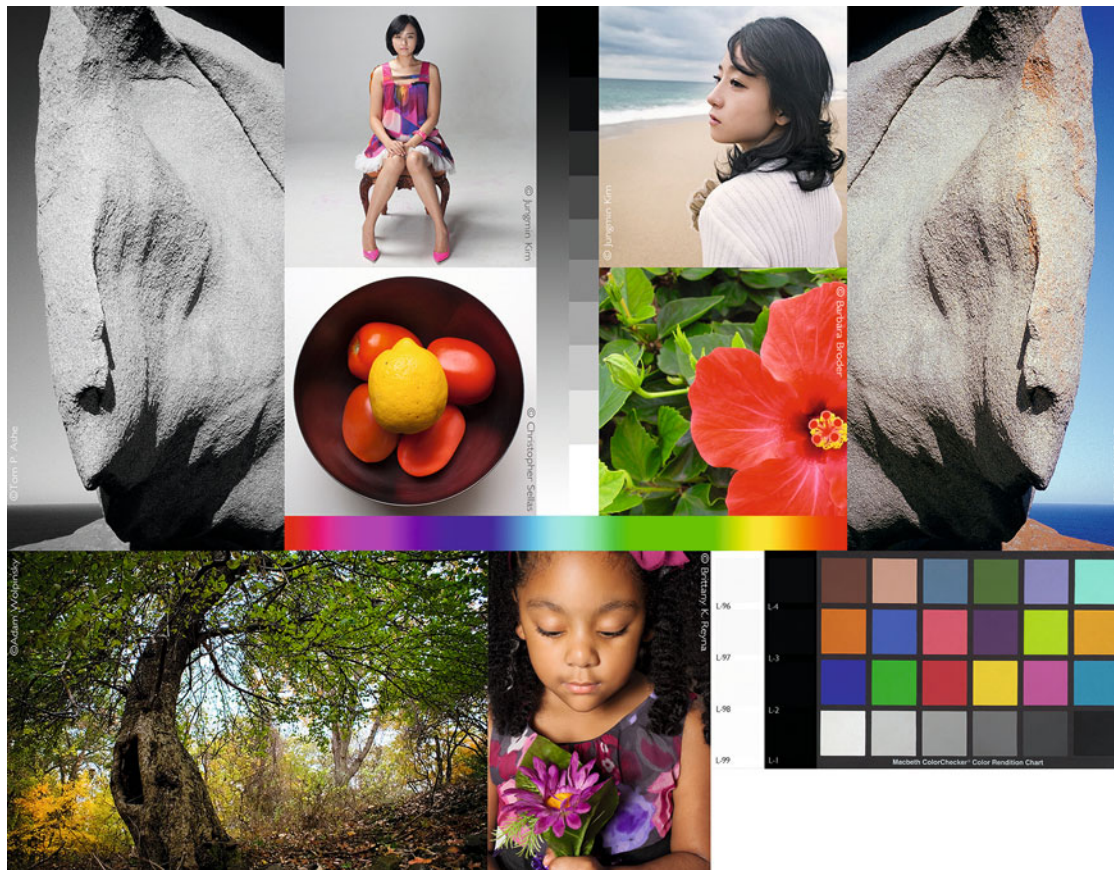

FIGURE 17.7 Test page that is separated into different types of CMYK in Figures 17.8, 17.9, 17.10, and 17.11.
FIGURES 17.8–17.11 (top to bottom) (1) UCR (Under Color Removal) – Medium Black; (2) GCR (Gray Component Removal) – Medium Black; (3) GCR – Light Black; (4) GCR–Dark Black. All CMYK separations from the test page in Figure 17.7.
ink would be added to make greens in the print output appear less saturated, with GCR black ink is used instead of magenta. This then happens with all the other colors—Figures 17.8 and 17.9 show the difference in UCR and GCR separations for the image in Figure 17.7 respectively. A percentage of *Under Color Addition* (UCA) can be added in, when using UCR, to make richer blacks.